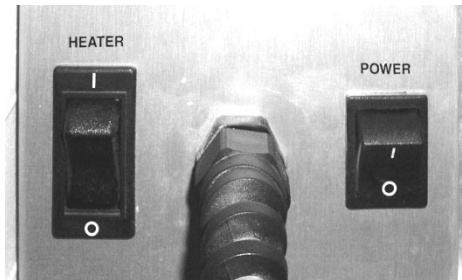

Figure 14 - Heater and Power Switches in the Off Position
52. Turn the heater and power switches into the off position (see Figure 14).